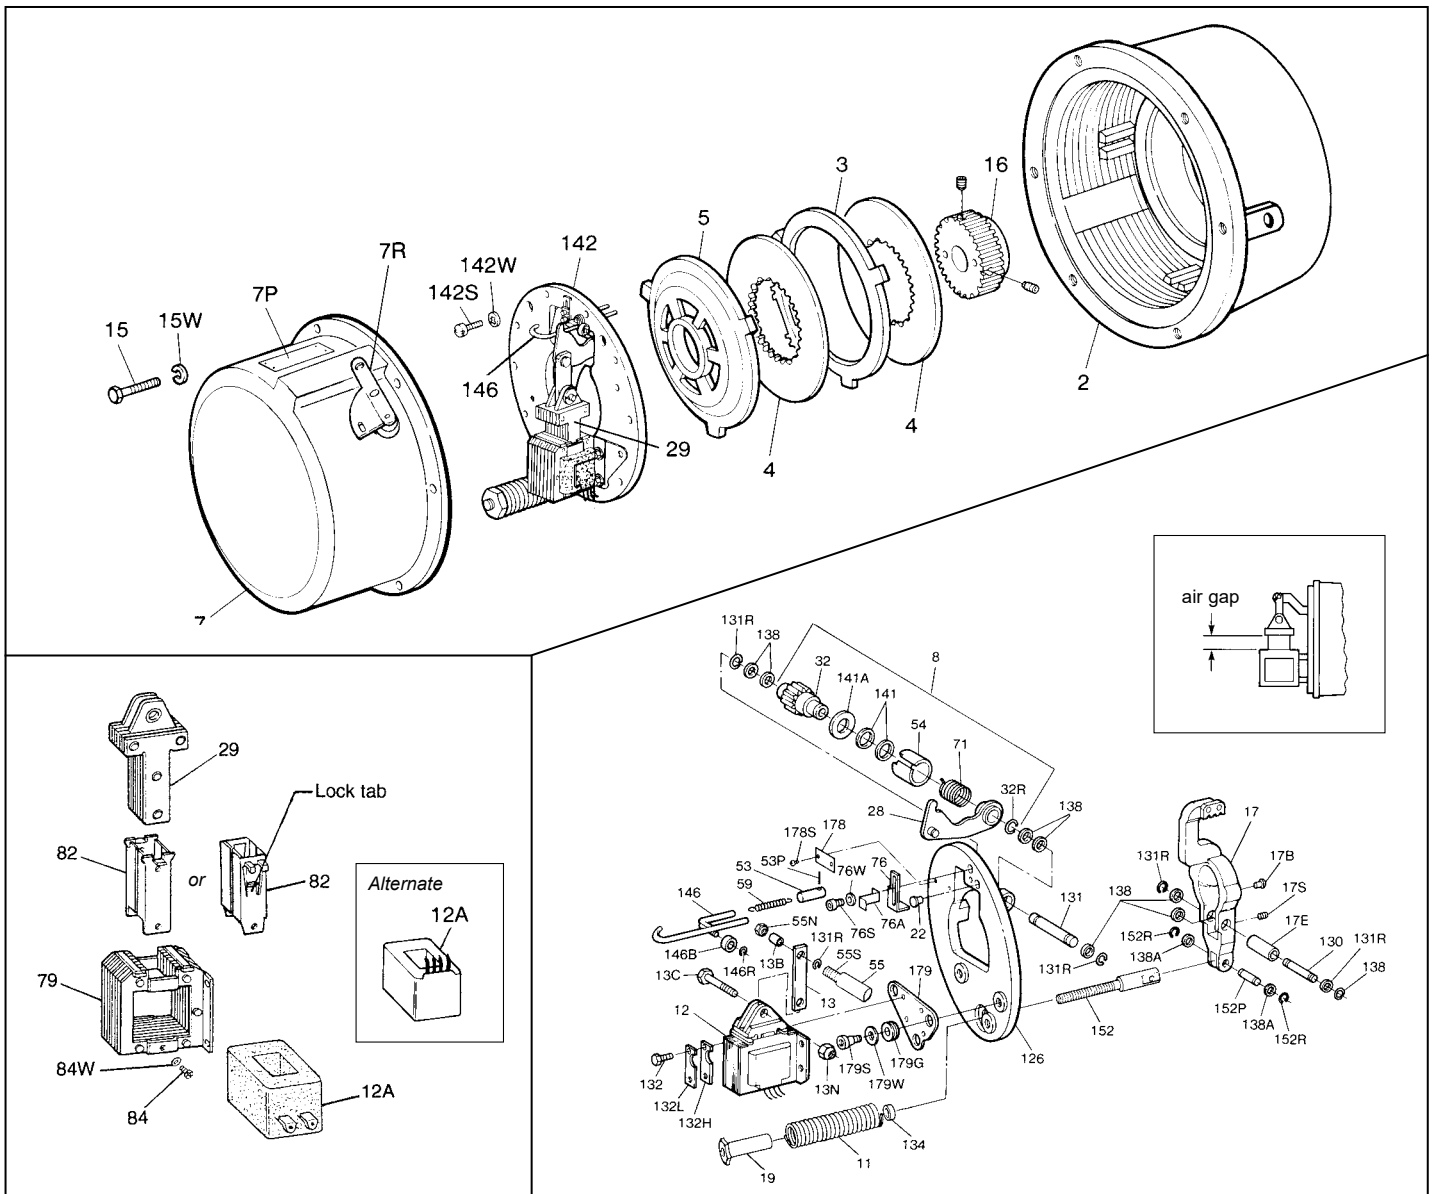

Figure 1
(See Figure 1)
1. Unscrew manual release knob (148), housing screws (15) and washers (15W) and remove housing.
3. Remove solenoid link screw (13C) and lift plunger (29) from frame (79).
4. For metallic plunger guides (82) remove plunger guide screws (84) and lock washers (84W). Remove both plunger guides (82) by prying up on the flanges. Discard plunger guides.
- a) To remove non-metallic plunger guides (82) remove screws (84) and lock washers (84W). Insert shim stock or other thin gauge material at top center of coil between coil and solenoid frame. Push to release lock tab while lifting up on plunger guide. Repeat for other plunger guide.
5. Slide coil (12A) out from solenoid frame (79) in the direction of the coil leads or terminals. If necessary, tap coil lightly with a soft hammer. If solenoid coil had burned out, be sure to remove all foreign material from the solenoid plunger (29) and solenoid frame.
6. Install new coil (12A) into solenoid frame with same relative position as old coil. Install coil, alternate (12A), with lead wires upward on outboard side of solenoid. If solenoid actuated switch or DC coil is used, install coil with lead wires upward toward inboard side of solenoid. Assemble new metallic plunger guides (82), plunger guide screws
(84) and lock washers (84W) if used. See Figure 1.
- a) Assemble new non-metallic plunger guides (82) by inserting into position and pushing down until lock tab snaps under top bar of solenoid frame. On coil (12A) with terminals, check that lock tab face is flush with inside surface of guide. If not, file chamfer [about 1/16" (1.5 mm) by 45°] on coil at lock tab area. Install plunger guide screws (84) and lock washers (84W) if used.